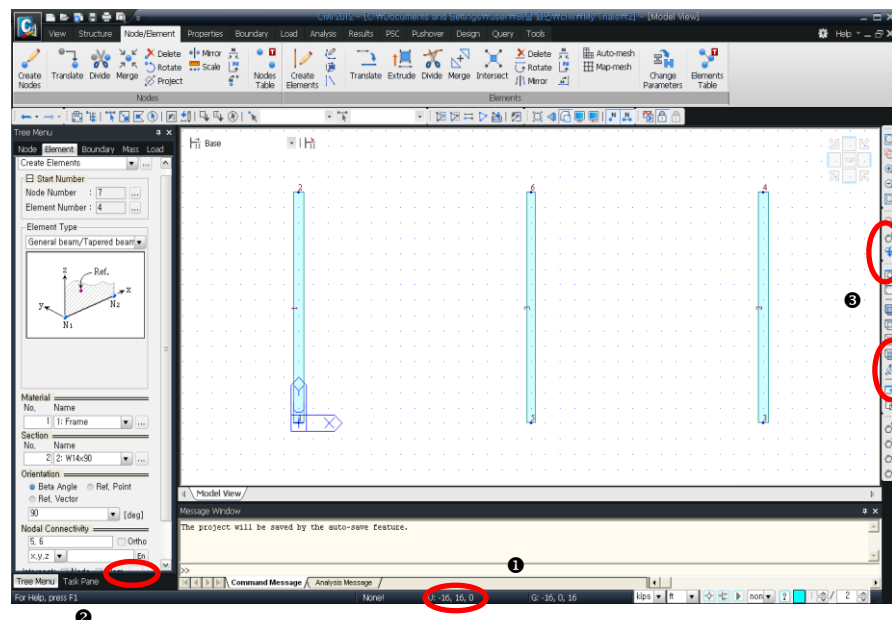

Figure 2.4 Generation of Column Elements
9. Generate elements **1 & 2** (exterior columns) by linking the positions (**0, 0, 0**) and (**0, 30, 0**) and positions (**64, 0, 0**) and (**64, 30, 0**) relative to the UCS coordinates noted at the bottom of the screen (Fig.2.4–①) with the mouse cursor.
While generating elements, if the window area is too small or the position is unsuitable, the user may adjust the window by using Zoom or Pan (Fig.2.4–③).
First of all, click **Close** as shown in Fig.2.4–2 and switch to the Main Menu. Then, execute **Structure>Base Structures>Truss** to start modeling.
1. Click  as shown in Fig.2.4–**2**.